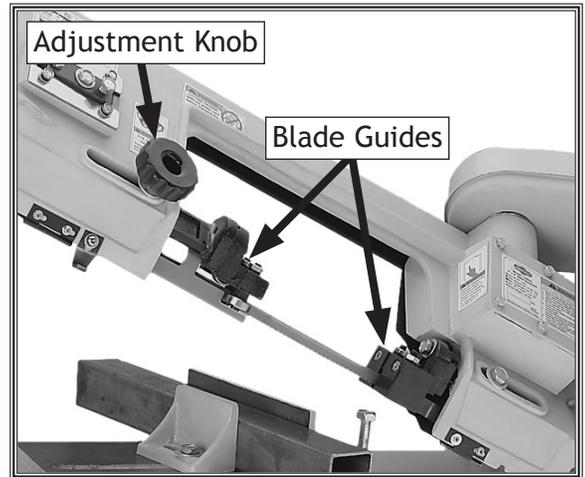

Figure 30. Blade guide adjustment knob.
2. Loosen the adjustment knob shown in **Figure 30** and slide the blade guide as close to the workpiece as possible, then re-tighten the knob.